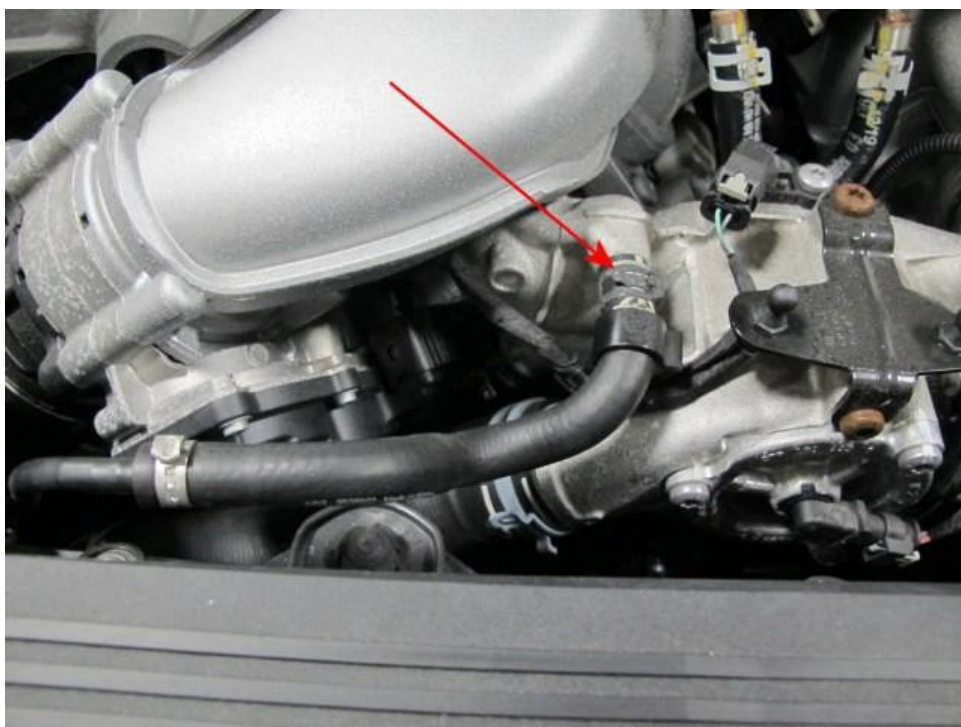

Figure 5
- Referring to Figure 5 - Disconnect the vent hose from the Thermostat housing